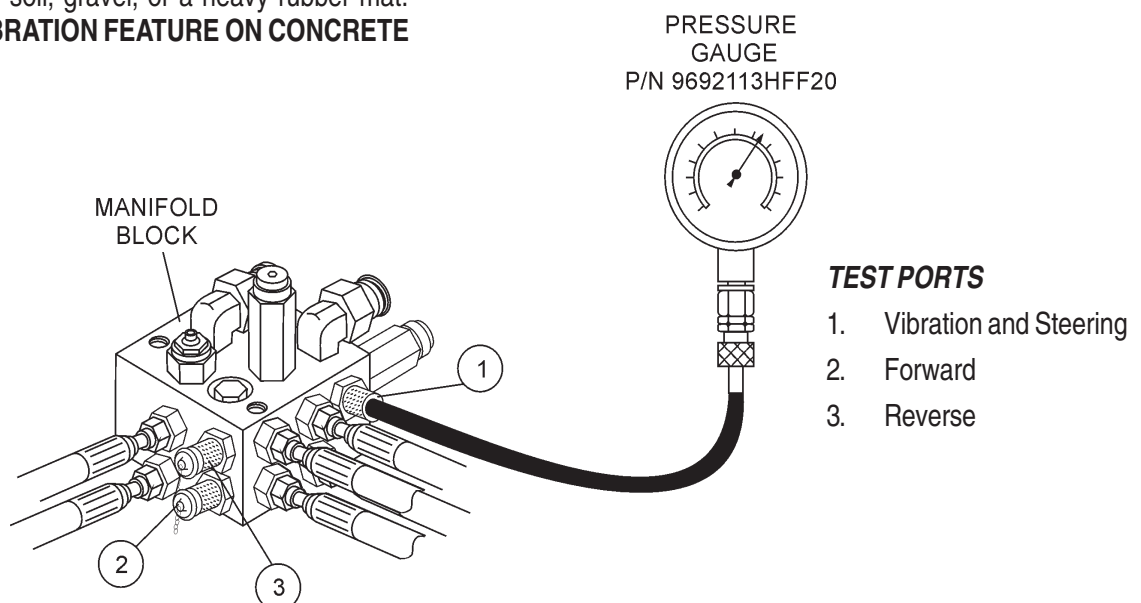

Figure 34. Manifold Test Ports
5. On the manifold block install a 5,000 psi pressure gauge (Figure 34) to the **forward** pressure quick disconnect test port 2
1. On the manifold block, install a 5,000 psi pressure gauge into quick disconnect test **port 1** (Figure 34).